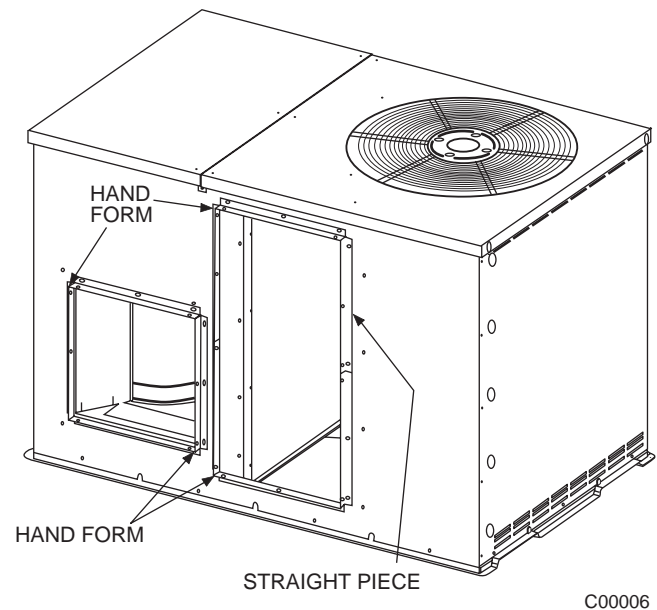

Fig. 6—Flanges Installed on 50ZH060 Units
3. Install the straight flange on the right side of the return-air opening in holes provided. (See Fig. 6). Flanges should stick out from unit to allow for connection of ductwork.